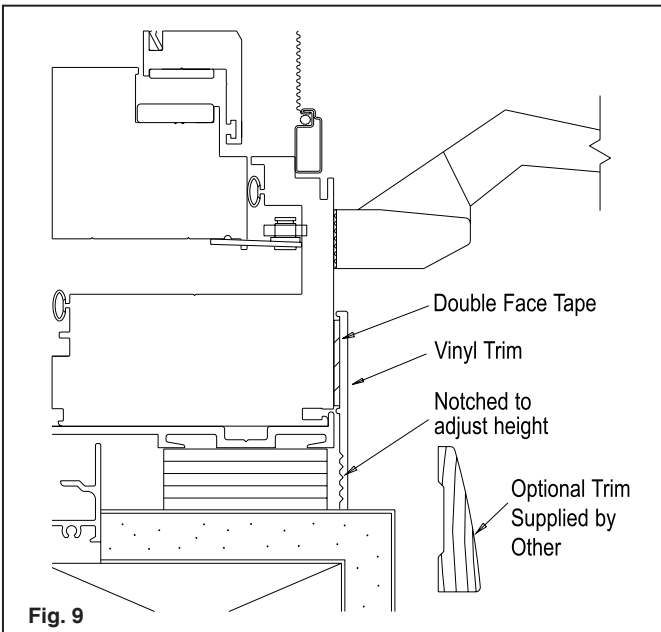

Fig. 9
A. An optional flat vinyl interior trim is available for concealing the gap between the existing frame and the newly installed window. The trim is applied to the new frame with a double face tape. See **Fig. 9**. Measure and cut trim to fit. It is your option to use this trim or you may want to use a more decorative wood trim.